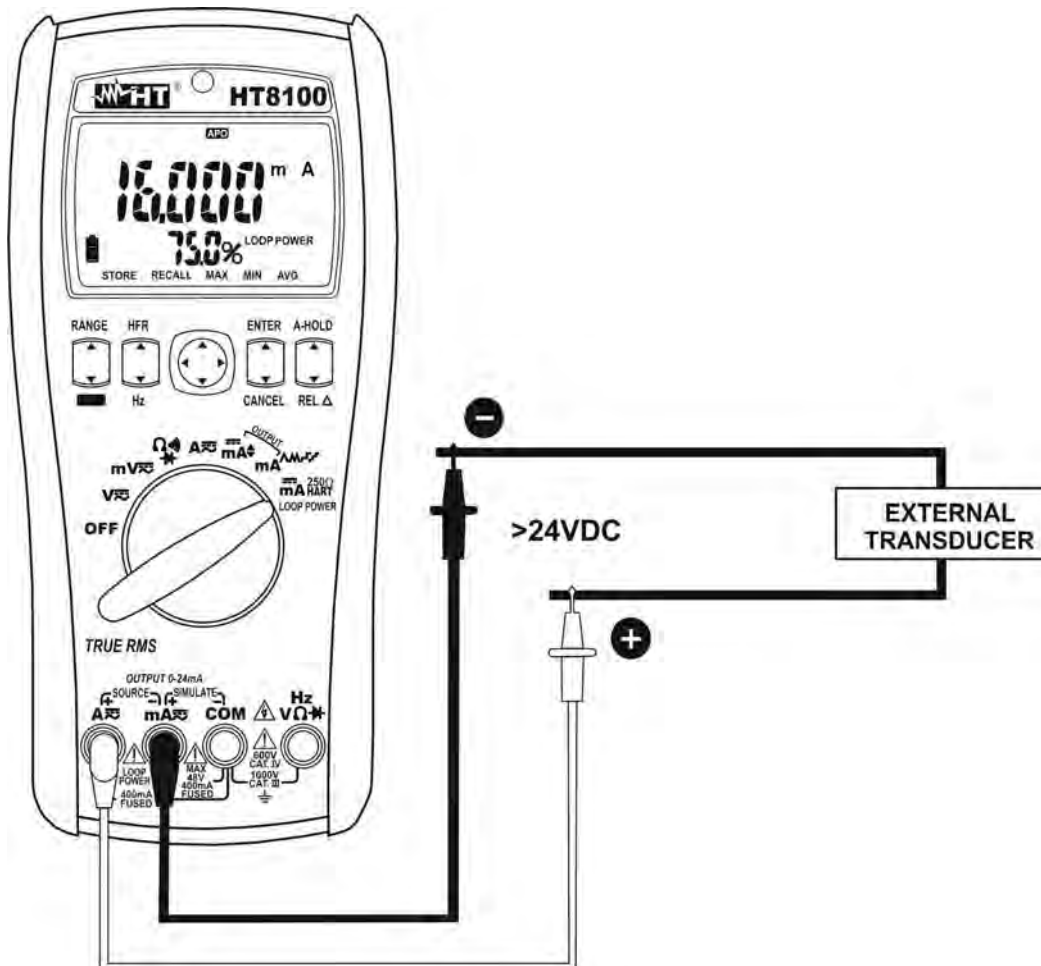

Fig. 10: Use of the instrument for measuring output DC current from external transducers
4. Connect the red lead and the black lead to the external transducer, respecting current polarity and direction (see Fig. 10)